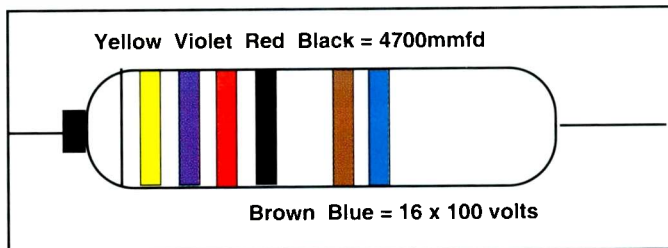

Figure 5. Pictorial for a .0047-mFd molded Bakelite tubular wax-paper bumble-bee capacitor.
In any event, Table 2 gives the color codes for these parts, and Figure 5 shows an example of a 4700-mmfd capacitor. The first three bands are the value; in this case, *yellow* (4) *violet* (7) and *red* (2) equate to 4700 mmfd (.0047 mFd). The fourth black band indicates the cap has a